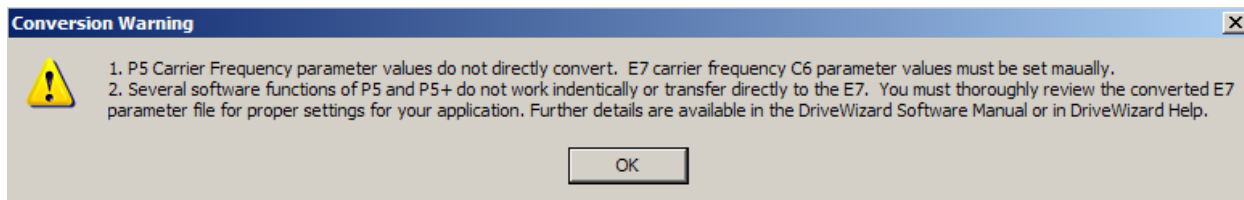

Figure 4.21: Conversion Warning
5. A warning window (Figure 4.21) will now appear reminding the user to set the carrier frequency and rating of the E7 manually (C6-01, C6-02, etc) . This is because the GPD505/506/P5 does not have the current rating and carrier frequency rules that the E7 has. Refer to the E7 drive manual TM.E7.02 programming page 29 for more detail. **Also, several of the functions in P5 do not directly convert to E7 so please check the converted file for the correct drive programming** (See Appendix H for more detail). Click on **OK** to complete the file save process.